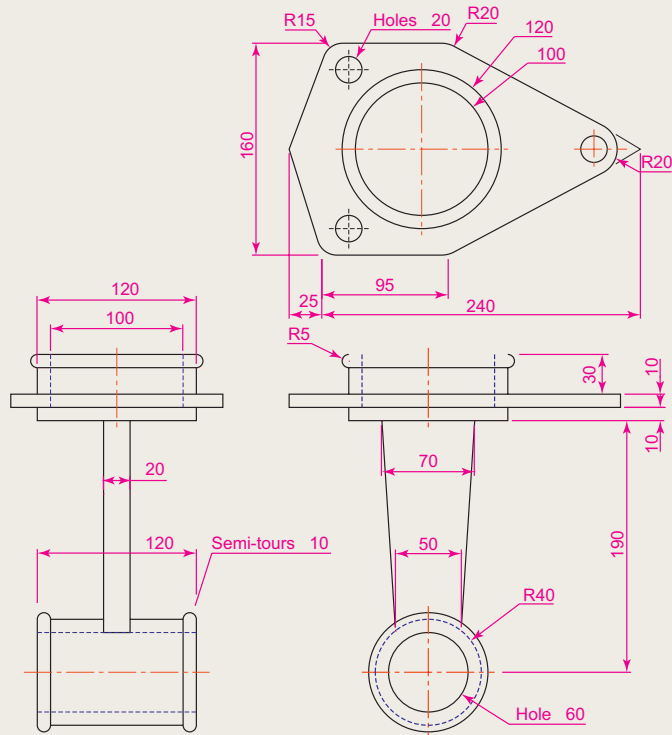

Fig. 15.52 Exercise 3
3. A three-view drawing of a hanging spindle bearing in third angle orthographic projection is shown in Fig. 15.52. Working to the dimensions in the drawing construct a 3D model drawing of the bearing. Add lighting and a material and render the model.